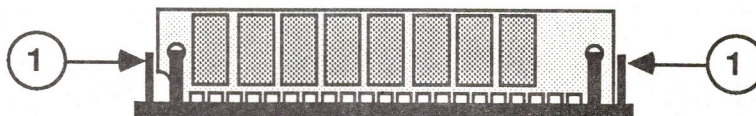

FIGURE 10
2. To remove a SIMM, push outward on the plastic holders (Figure 10, #1) at the ends of the SIMM until you hear a click. Then lift out the SIMM.